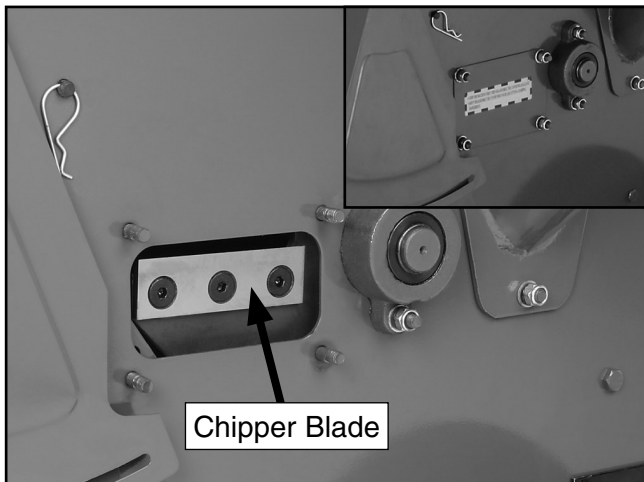

Figure 11. Chipper blade.
2. Remove the side cover plate (photo inset in **Figure 11**) to expose the blades.